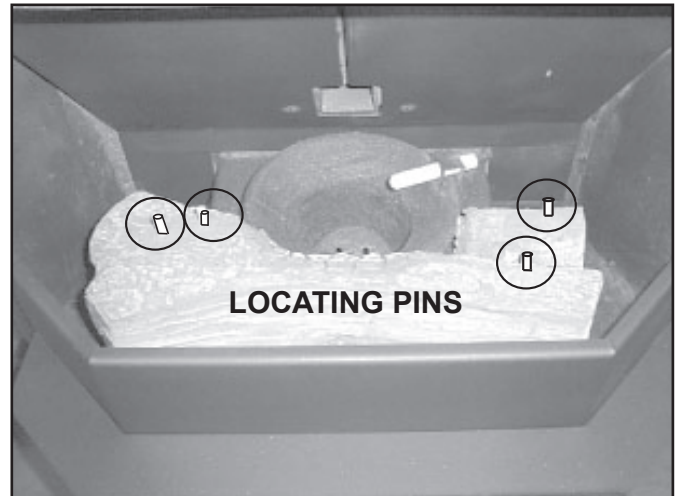

Figure 23.2
1. Place the front log in first as shown in **Figure 23.2** charred area surrounding fire pot.